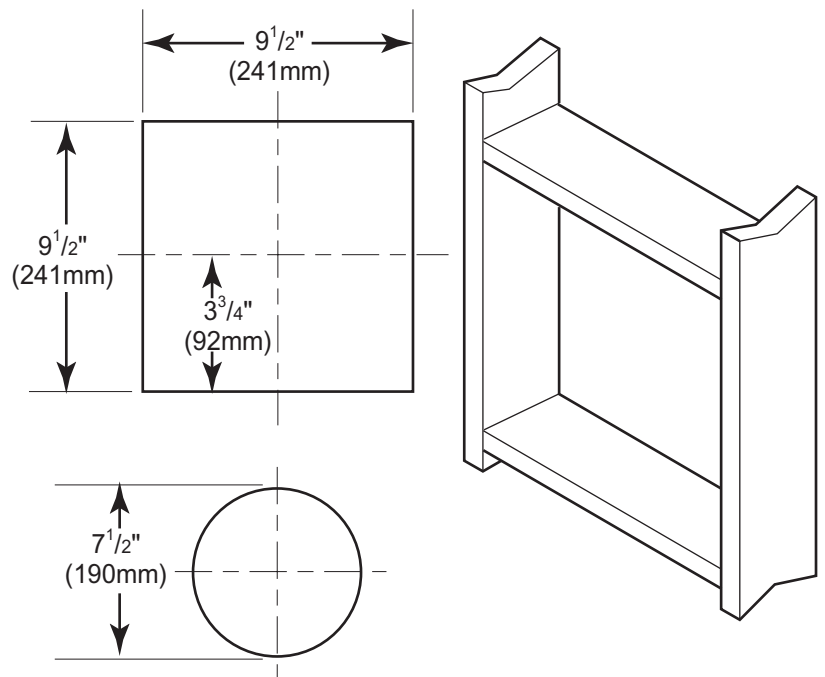

Figure 16 - Exterior Wall Framing Dimensions
Combustible Exterior Walls: Cut a 9¹/₂"H x 9¹/₂"W square hole through the exterior wall frame. See Figure 16.
3. The center of the hole should line up with the center line of the horizontal rigid vent pipe end. Pipe shall always run level or uphill on horizontal runs. Never run pipe down hill. See Figure 16.
1. Establish vent hole through the wall. *See Figure 16, page 18.*